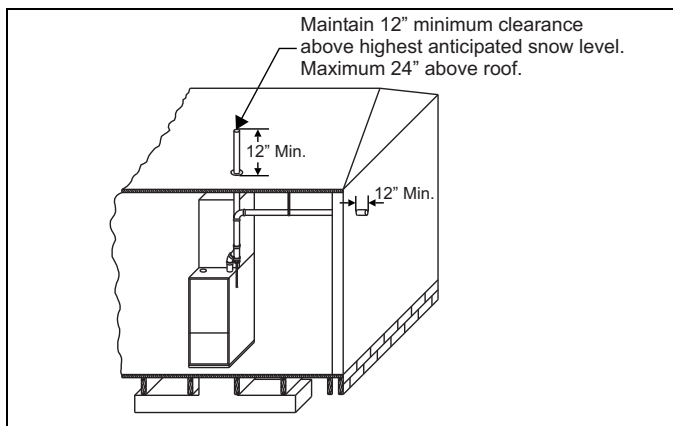
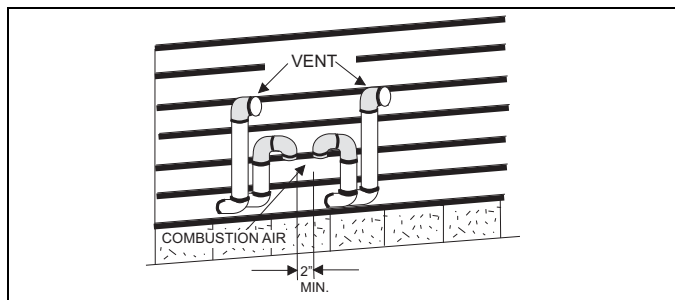

Figure 20: Termination configuration - one pipe
Figure 23: Double horizontal combustion air intake and vent termination
The combustion air side of the single-pipe configuration shown in Figures 20 and 28 is referred to in these instructions as ambient combustion air supply. Follow the instructions for ambient combustion air installations, paying particular attention to the information on air source from inside the building in the Ambient Combustion Air Supply section. The vent for a single-pipe system must be installed as specified in the VENT APPLICATIONS AND TERMINATION section with both vents terminating as shown in Figures 23 to 24. Each furnace must have a separate vent pipe. Under no circumstances can the two vent pipes be tied together.
The combustion air side of the two-pipe configuration shown in Figures 23 and 24 can be installed so the combustion air pipe terminates as described in the Outdoor Combustion Air section or the Ventilated Combustion Air section. Follow the instructions for outdoor combustion air or ventilated combustion air and the instructions for installing the vent system with the vent terminating as shown in Figures 23 and 24. The two-pipe system must have a separate combustion air pipe and a separate vent pipe for each furnace. Under no circumstances can the two combustion air or vent pipes be tied together. The combustion air and vent pipes must terminate in the same atmospheric zone.
- **Ambient combustion air:** Combustion air is supplied from the area surrounding the furnace through openings in the furnace casing. The combustion air and the vent pipes are not terminated in the same atmospheric zone. See Figure 20 for vent terminations. See the Ambient Combustion Air Supply section for proper installation. See Figure 28.